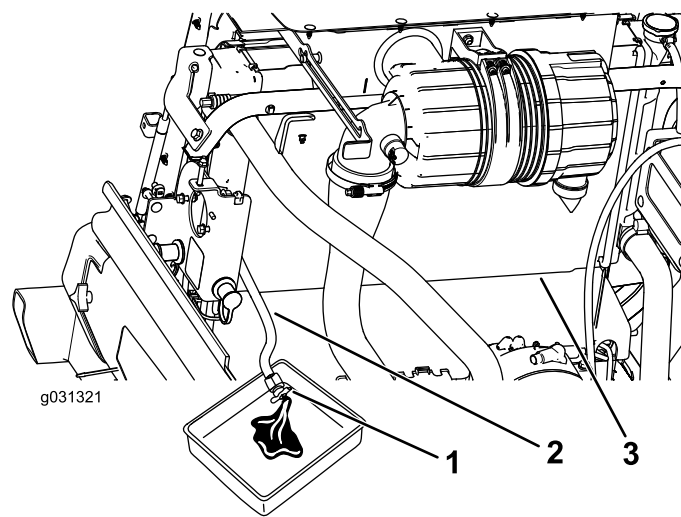

Figure 123
3. With the radiator drain hose placed in a drain pan, open the drain valve on the radiator hose and drain the fluid into a drain pan (Figure 123).